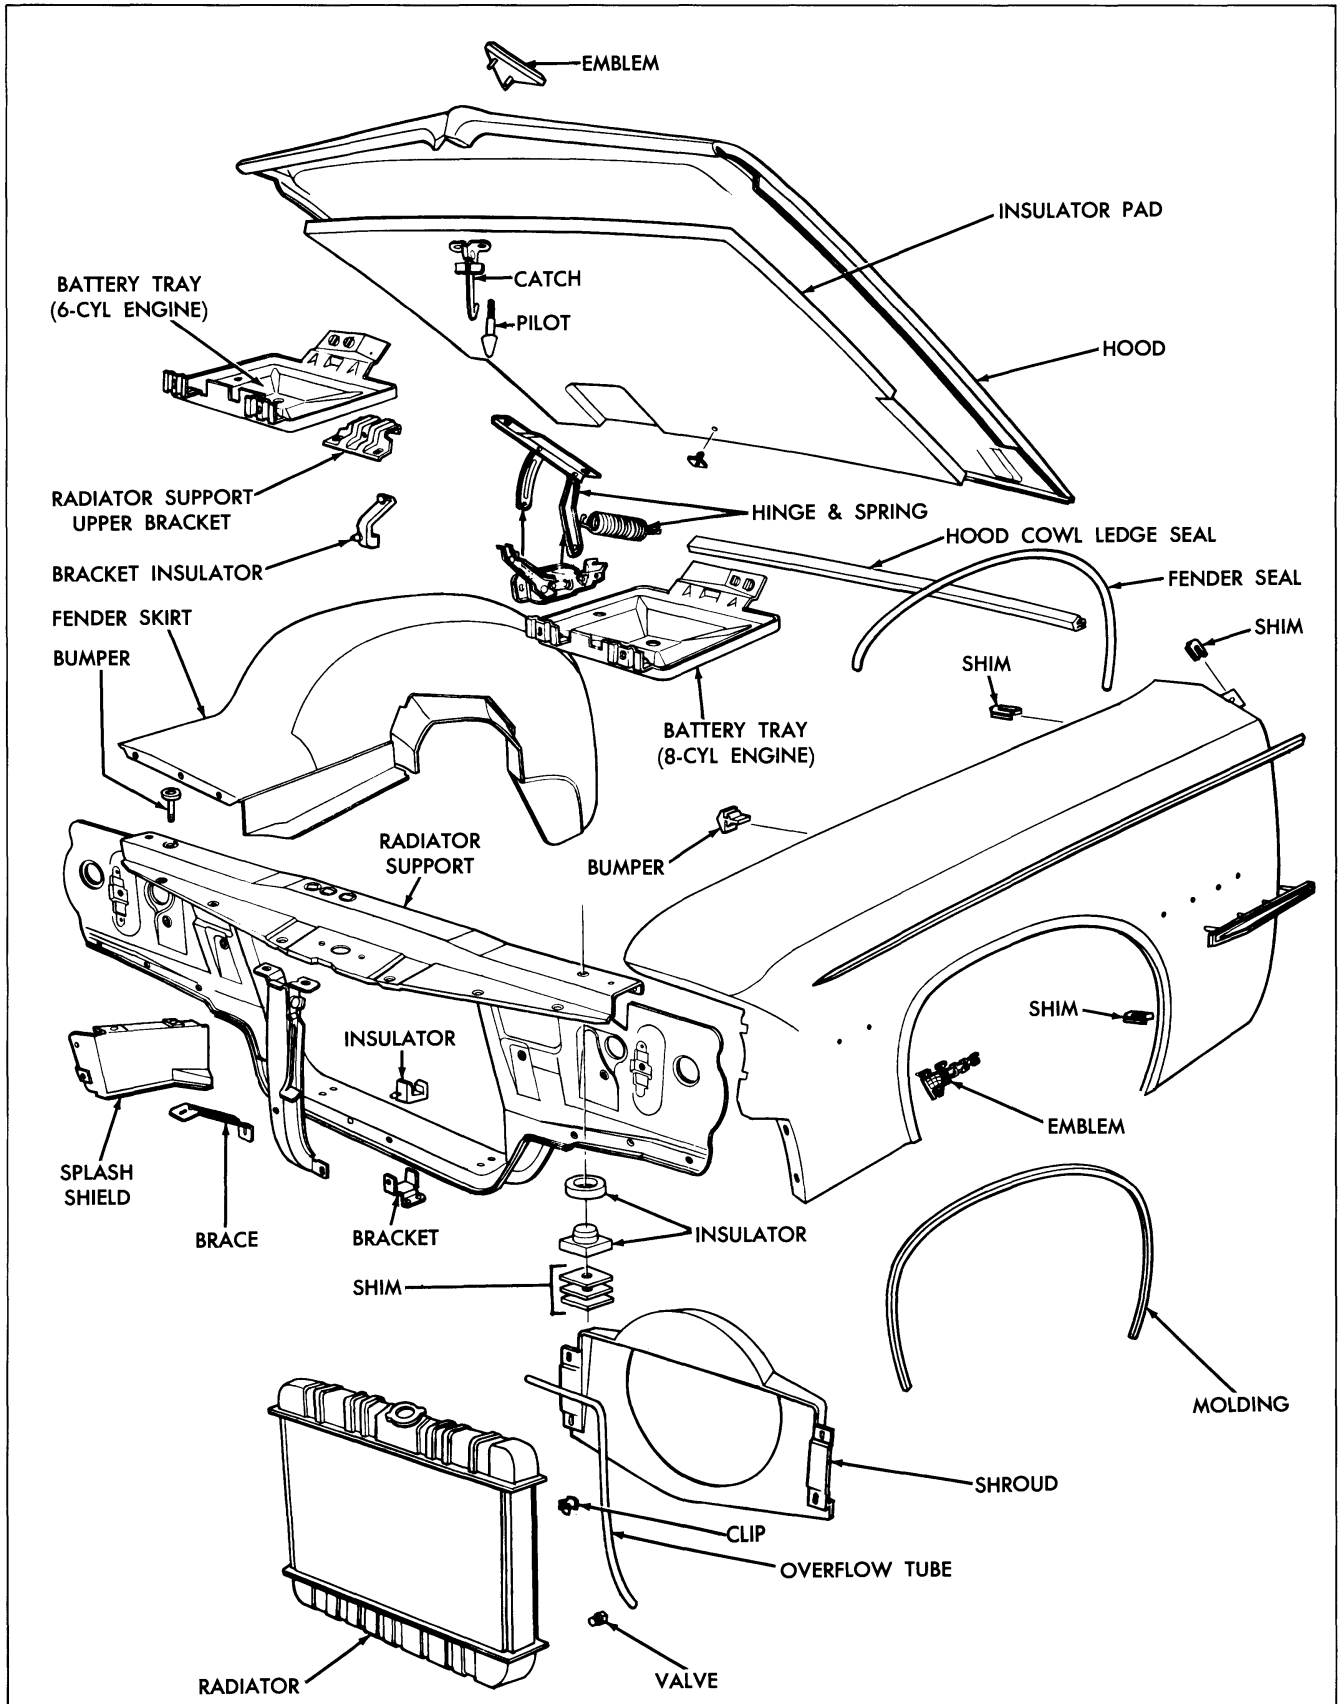

Fig. 10-5 Exploded View—Front End Sheet Metal
Fenders can be moved closer to or farther from the cowl by adding or removing shims between fender and bowl (Fig. 10-5). Fenders can also be adjusted vertically by shifting the fender on the enlarged bolt holes.
1. Slotted holes in the hinge bracket to hood are provided to align hood fore and aft (Fig. 10-5).
2. Raise or lower hood bumpers on front fender cross brace (Fig. 10-5).